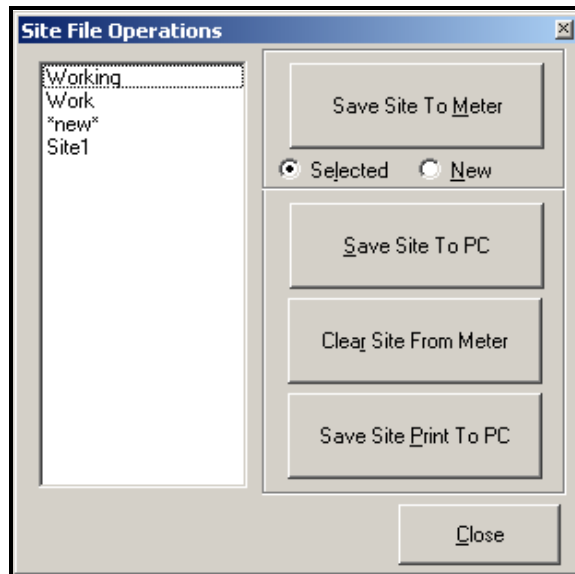

Figure C-14: The *Site File Operations* Window
To access site files, click on the *Site Files* button in the *Properties* window. The *Site File Operations* window (shown in Figure C-14 below) opens.
1. Highlight the desired site in the left pane. (See Figure C-14 on page C-12.)
1. Highlight the site in the left pane. (See Figure C-14 on page C-12.)